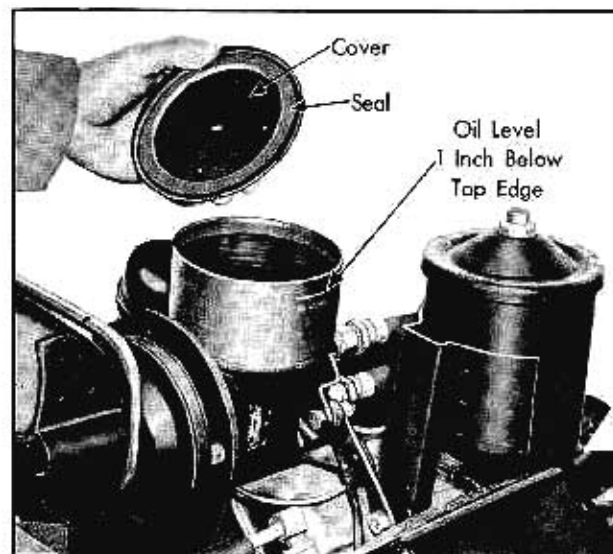

Fig. 7-9 Checking Pump Fluid Level
2. Level of fluid should be  $1/2$ " below top edge at oil level mark as indicated on outside of tank, Fig. 7-9.